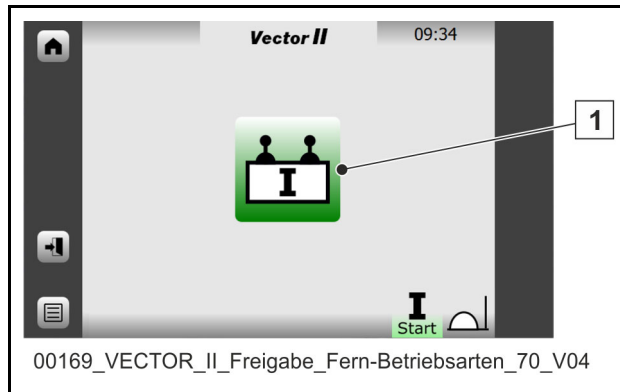

Fig. 93 Releasing an operating mode: Remote
The symbol (1) (**Fig. 93**) indicates that the operating mode must be released on the remote control unit.
After selecting and releasing the “Clean mode” operating mode, control is transferred to the remote control, see (Fig. 93).
After selecting and releasing the “Pump separately” operating mode, control is transferred to the remote control, see (Fig. 93).
After selecting and releasing the “Removable stowing box” operating mode, control is transferred to the remote control, see (Fig. 93).
After selecting and releasing the “Rotatable stowing box” operating mode, control is transferred to the remote control, see (Fig. 93).